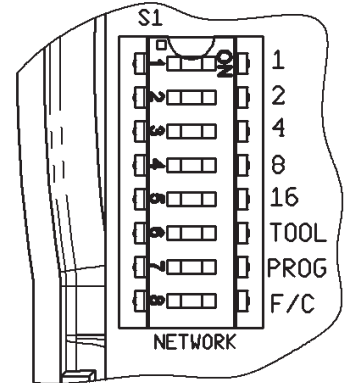

Fig. 7: Dip Switches
Dip Switch Options (see Fig. 7 on next page)
1. Remove cover and set DIP Switch #7 (PROG) to On (see Fig. 7).